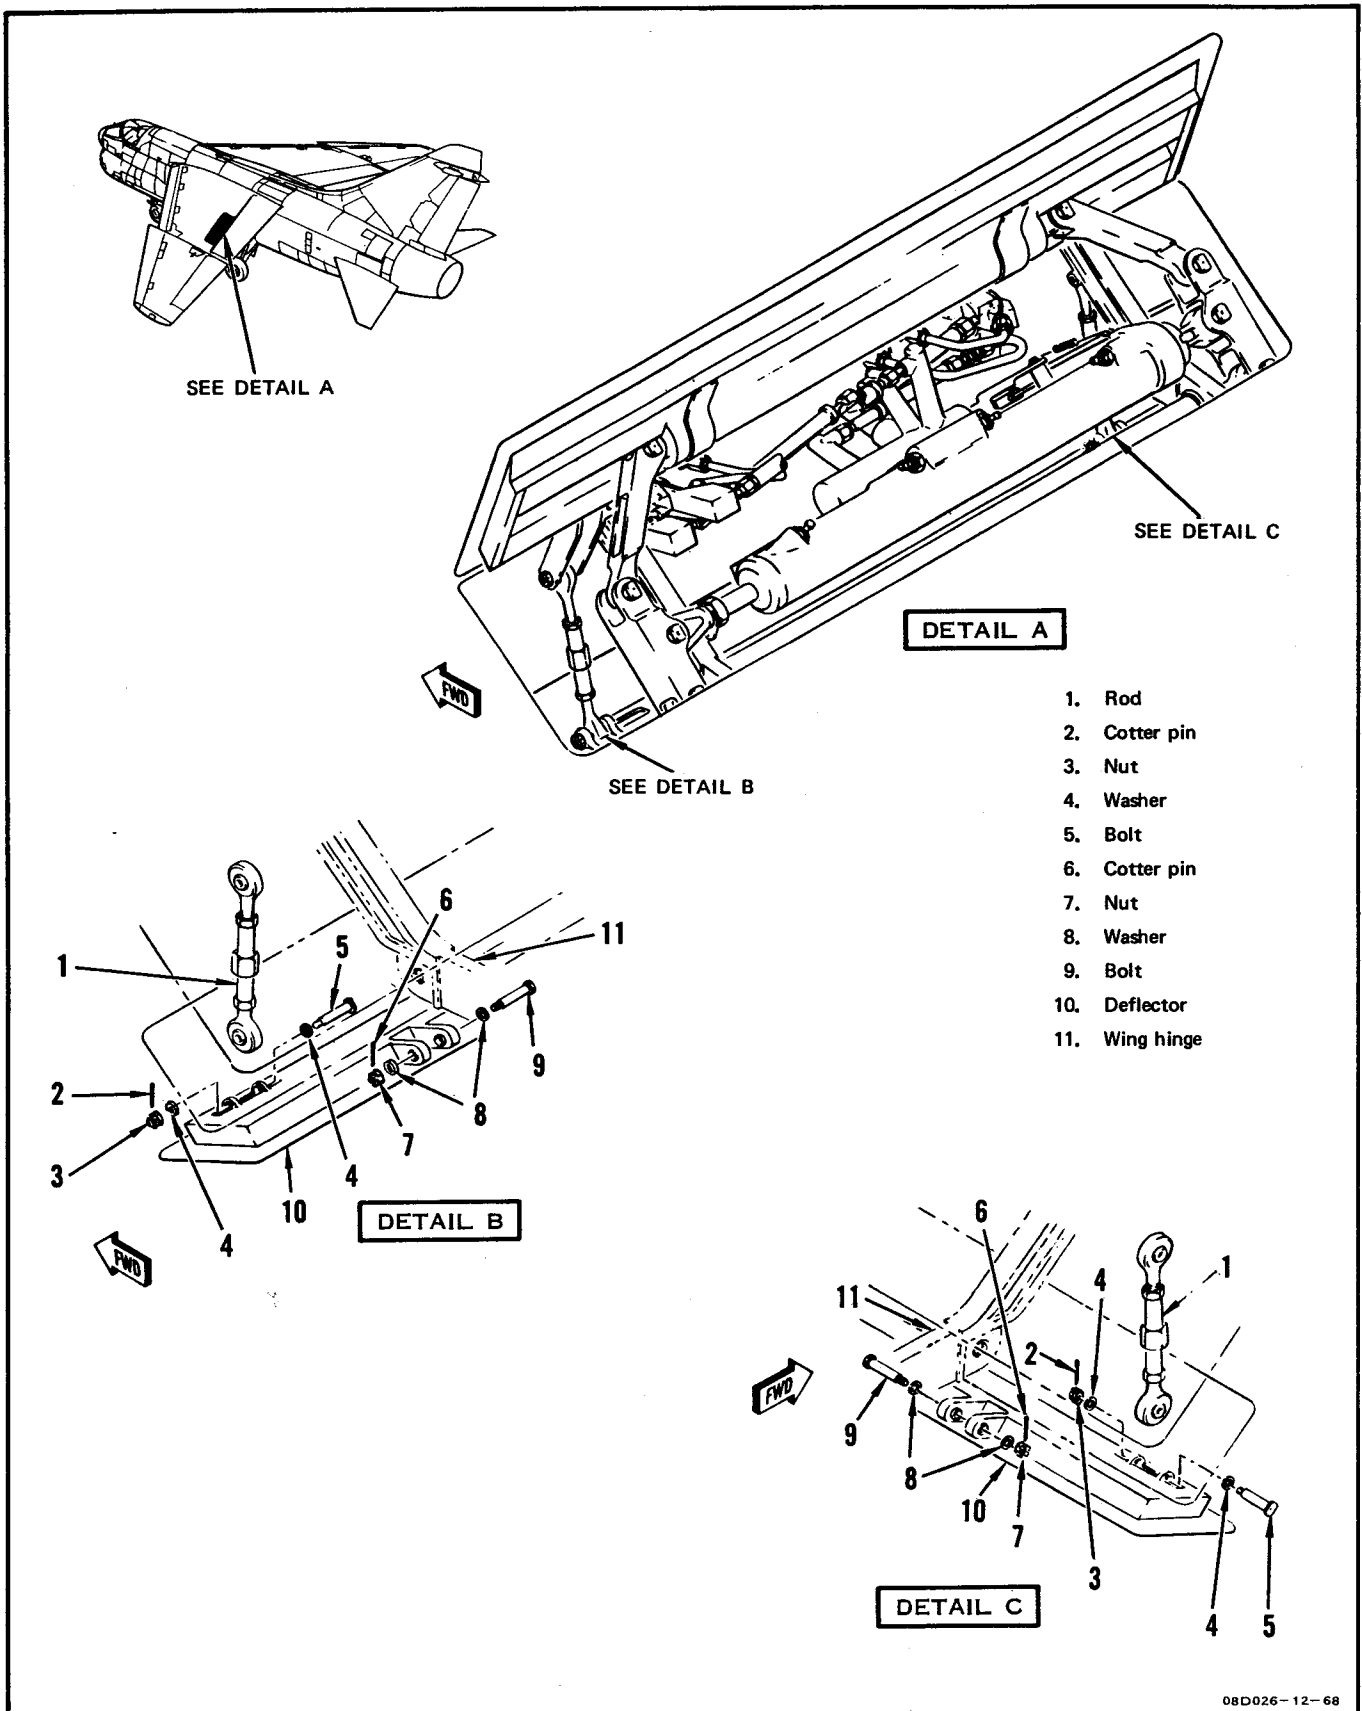

Figure 4-8. Deflector Removal and Installation
**4-40. REMOVAL.** (See figure 4-8.)
b. Disconnect rods (1) connected between deflector and spoiler by removing cotter pins (2), nuts (3), washers (4), and bolts (5) at deflector end of rods.
d. Remove cotter pins (6), nuts (7), washers (8), and bolts (9) attaching deflector (10) to wing hinge (11). Remove deflector.
**4-41. INSTALLATION.** (See figure 4-8.)
a. Attach deflector (10) to wing hinge (11) with bolts (9), washers (8), nuts (7), and new cotter pins (6). Tighten nuts finger-tight only and back off, if necessary, to install cotter pins.
c. Connect deflector rods (1) to deflector with bolts (5), washers (4), nuts (3), and new cotter pins (2). Tighten nuts finger-tight only and back off, if necessary, to install cotter pins.